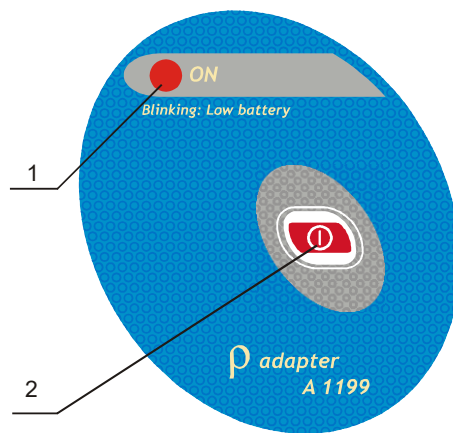

Figure 3.2: Front panel
- Press a key on the  $\rho$ -adapter. LED (*pos. 1* on *figure 3.2*) must light.